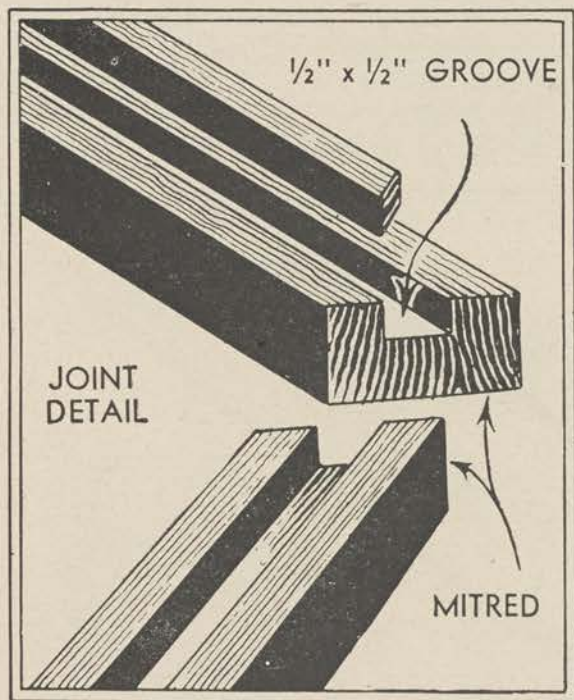

Figure 178.
b. The frame for work of average size is made from 1¼-inch square white pine. Its dimensions should be about 2 inches wider and 6 inches longer than the design. There are two types of frames which differ only in their provisions for stretching the silk. In the first the frame members are mitered and grooved (fig. 178). The silk is fitted to the